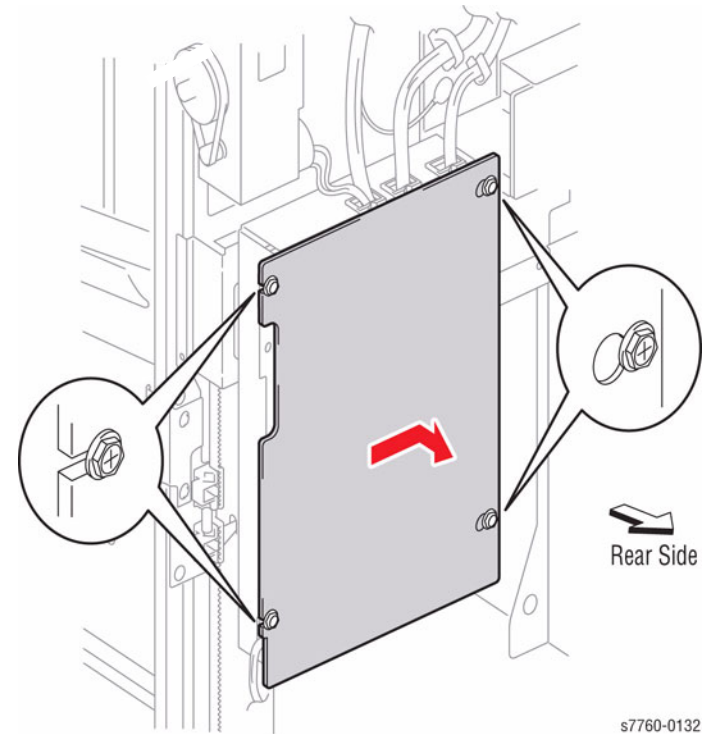

Figure 1 Removing Advanced/Professional Finisher PWB Cover
3. Remove the 4 screws securing the Finisher PWB (Figure 1).